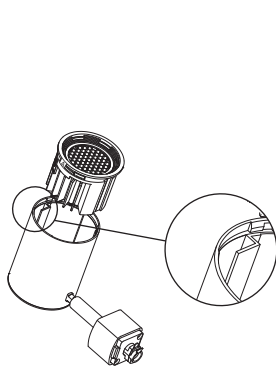

fig. 8
6. Look for the keyed connection in the fixture and on the module. And insert the module according to those keyed connection (A to A). (fig. 8 & 9)